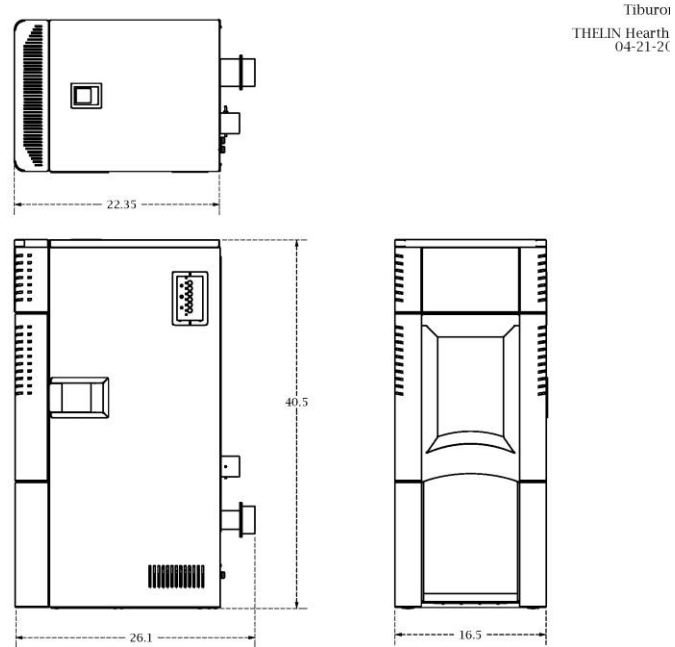

FIGURE 1
1. Outside combustion air is mandatory in mobile or modular home installations. An outside air inlet **MUST** be provided for combustion and ventilation air. The air inlet must remain unrestricted while unit is in use. Outside air connection is made at the air intake located on the rear of the stove (see **FIGURE 1**). The kit contains 2" flex tubing (part #43000-270). Outside air kit includes flex tube, hose clamp, and rodent screen/cap.